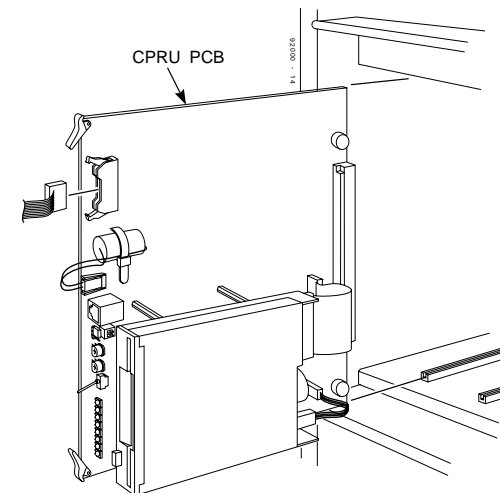

Figure 2-4 INSERTING THE CPRU
3. Insert the CPRU into the CPU slot in the Main Cabinet (Figure 2-4).